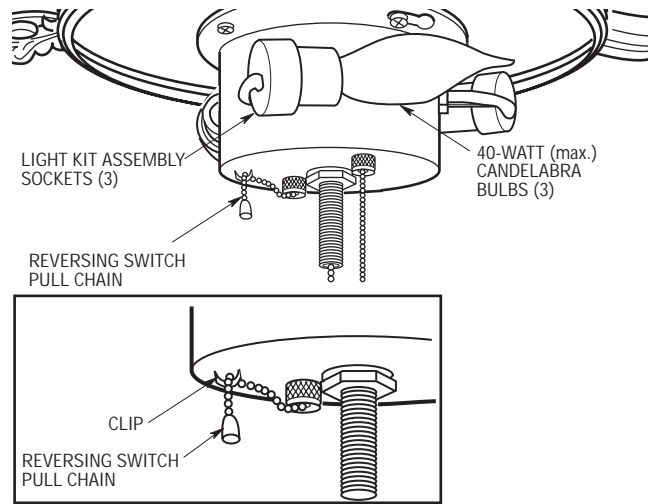

Figure 17
- 1. Screw in three 40-watt (maximum) candelabra bulbs in the light kit assembly sockets (Figure 17).
- 2. Locate the reversing switch, the short chain with the white knob attached. Slip the reversing switch chain into the clip as shown in Figure 17 insert.